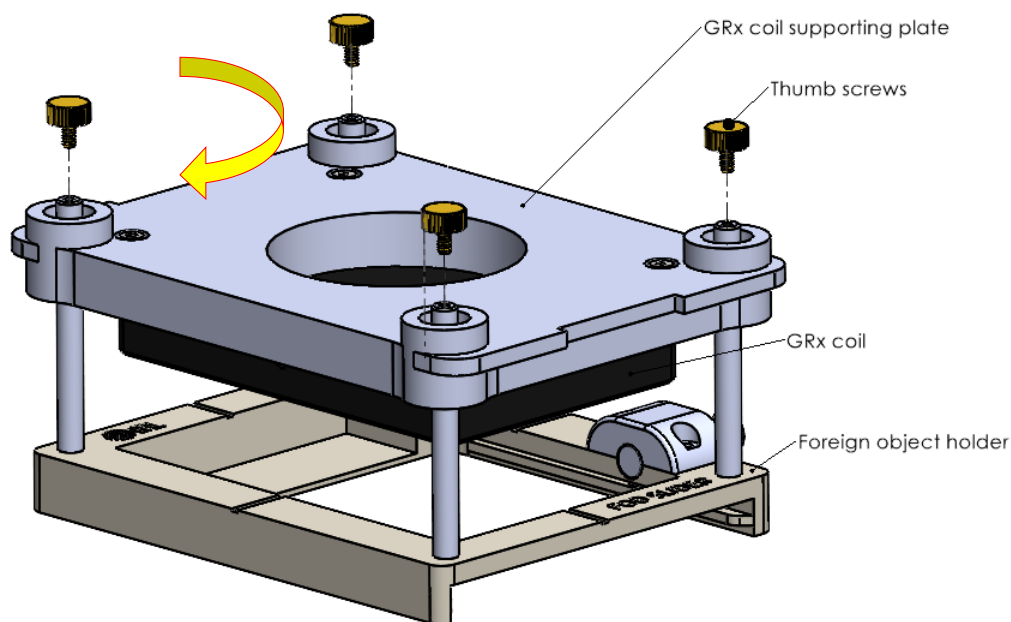

FIGURE 8.2: SET UP FOREIGN OBJECT HOLDER
1. Insert the foreign object holder into the GRx coil supporting plate and tighten the four thumb screws as illustrated in Figure 8.2 below.